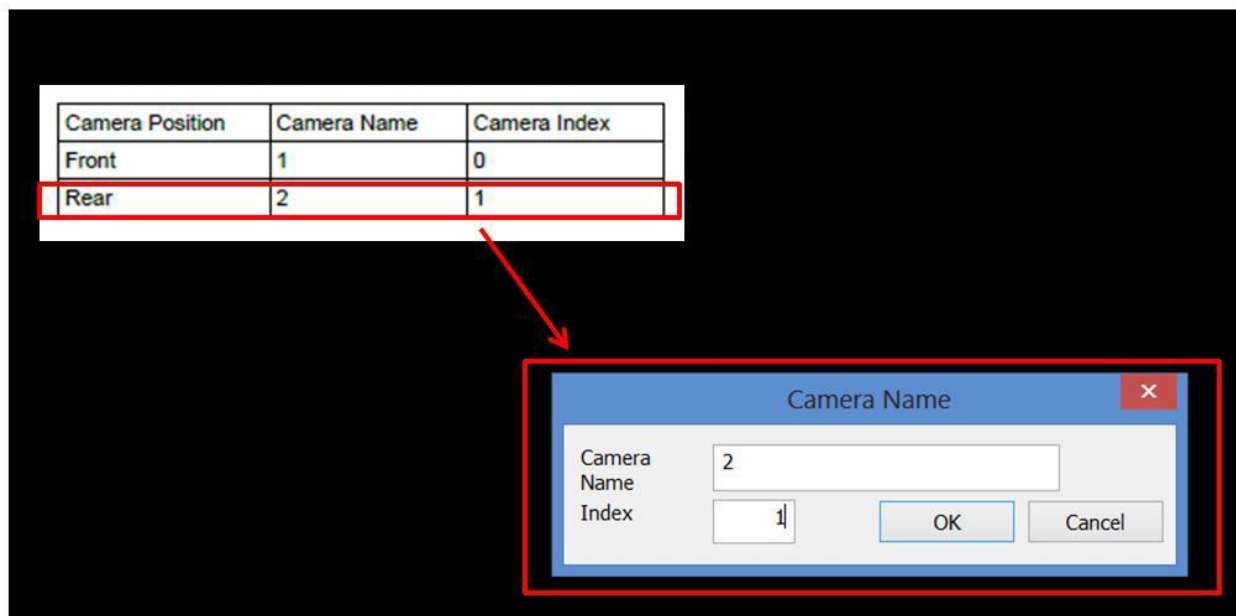

Figure 31 Camera Name Dialog box
30. Configure Rear PSP 2 Camera Module by refer to below Figure 31 and Click "OK".